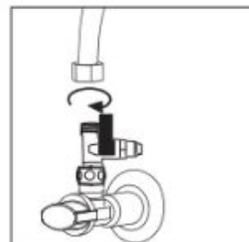

Figure 4.3
3. Attach the Feed Water Diverter Valve to the water supply and tighten snug. See Figure 4.3
4. Connect the cold water line to the attached Feed Water Diverter and tighten snug. See Figure 4.3